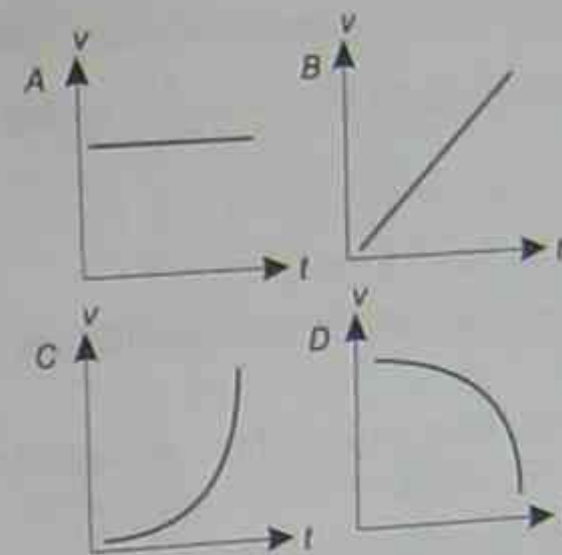

Figure 7.1
- (A) all moons have the same mass
- (B) all moons have the same radius
- (C) all moons have the same period
- (D) $\frac{r^3}{T^2}$ is the same for all moons.
- 2 An aircraft flying horizontally at 45 m.s^{-1} drops a package. Neglecting air resistance, the graph which best represents the horizontal velocity of the package against time is shown in Figure 7.1 as:
- (A) A
- (B) B
- (C) C
- (D) D
- (A) ensures the Earth's rotational velocity is added to the spacecraft's own velocity
- (B) avoids flights over rival countries
- (C) is done for safety reasons so that the spacecraft travels over water for its initial journey
- (D) helps slow the spacecraft down so it can go into orbit.